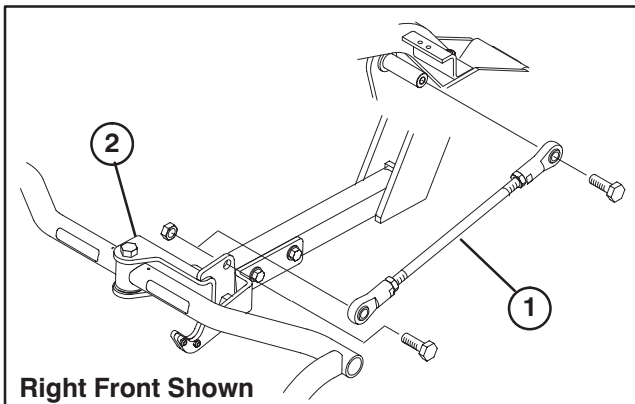

Figure 11
14. Secure rear end of adjusting rod to stud extension with a 1/2–13 x 1–1/4” lg. capscrew (Fig. 11).
17. Secure front end of long adjusting rod to clevis bracket with a 1/2–13 x 1–1/2” lg. capscrew and locknut (Fig. 11).